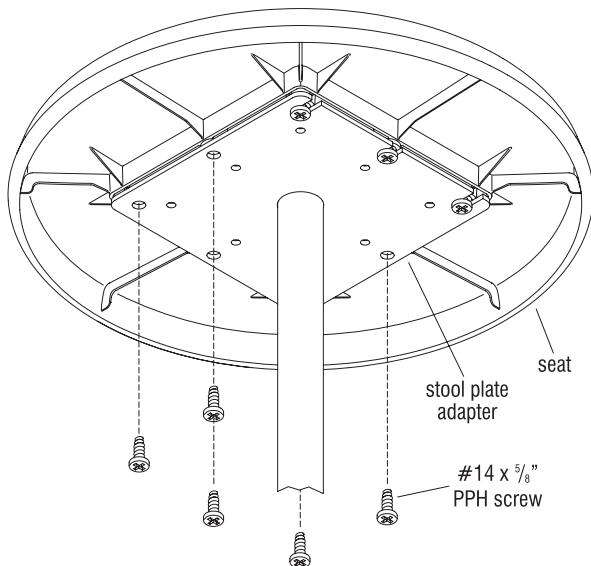

Figure 4
5. Slide plate adapter into place and align vacant seat mounting holes with stool plate holes (Figure 4).
6. Install five #14 x $\frac{5}{8}$ " PPH screws into the vacant attachment holes and torque to 15-20 in/lbs. Next, twist down the three screws on the slotted hole side and torque them to 15-20 in/lbs (Figure 4).